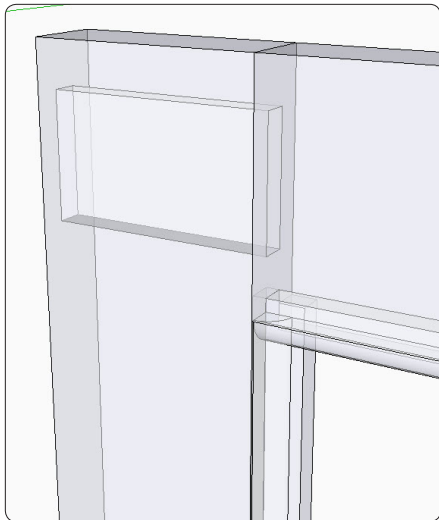

Figure 83. Connect the top rail to the stile, and in X-Ray View use the mortise in the stile to shape the tenon in the rail.
Step 8 Connect the top rail to the stile, as shown in Figure 83. In X-Ray View, use the outline of the mortise to create the tenon. (This procedure is explained in Chapter 7.) Copy the faces and edges of the tenon, execute a Flip Along command, and place the tenon on the opposite end of the rail. Repeat this step to make the tenons in the bottom rail.